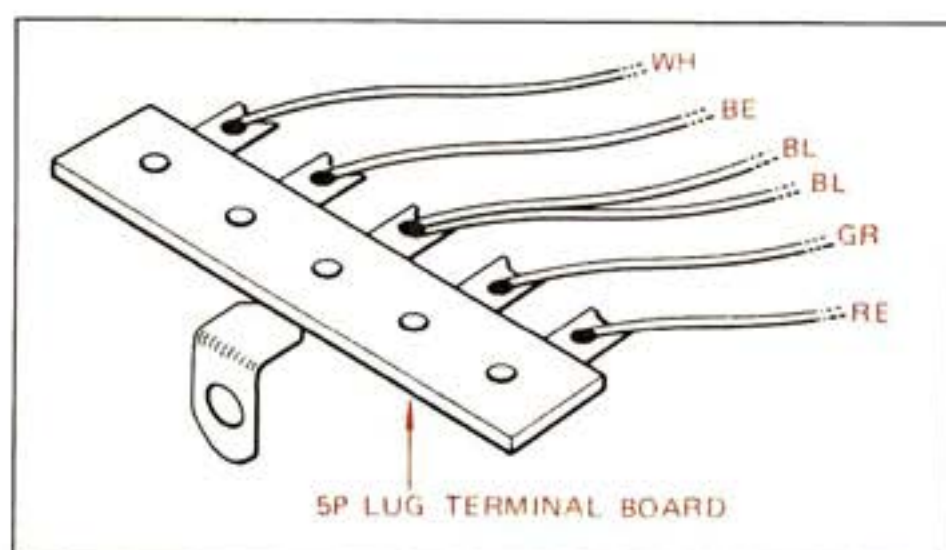

Fig. 1
- Remove the lead wires connected to the 5P lug terminal as shown in Fig. 1.